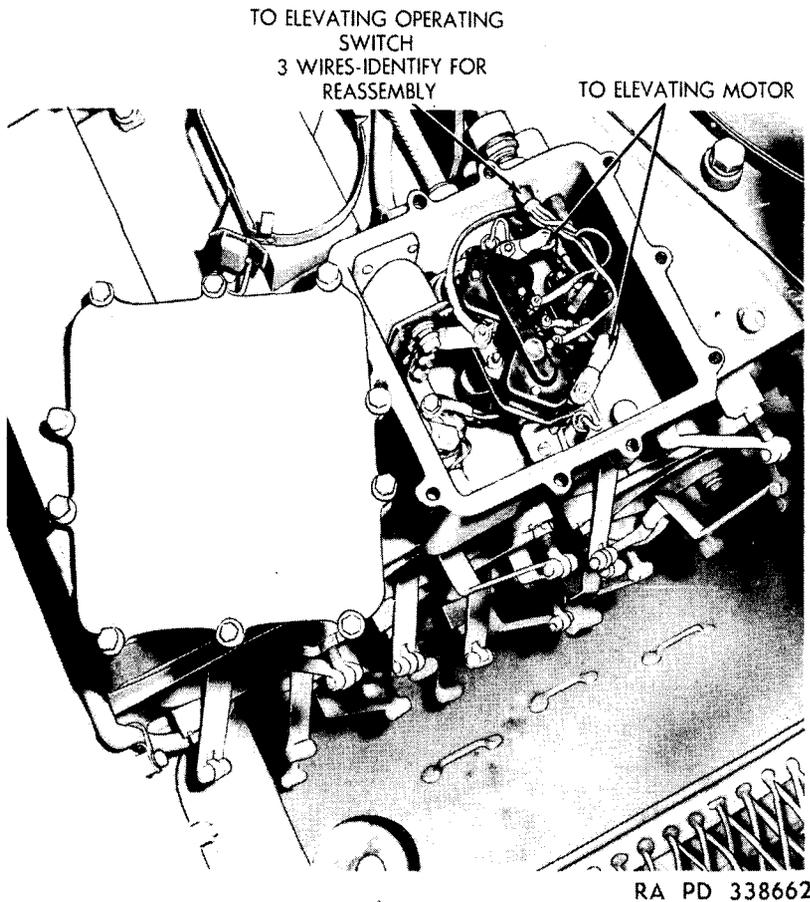
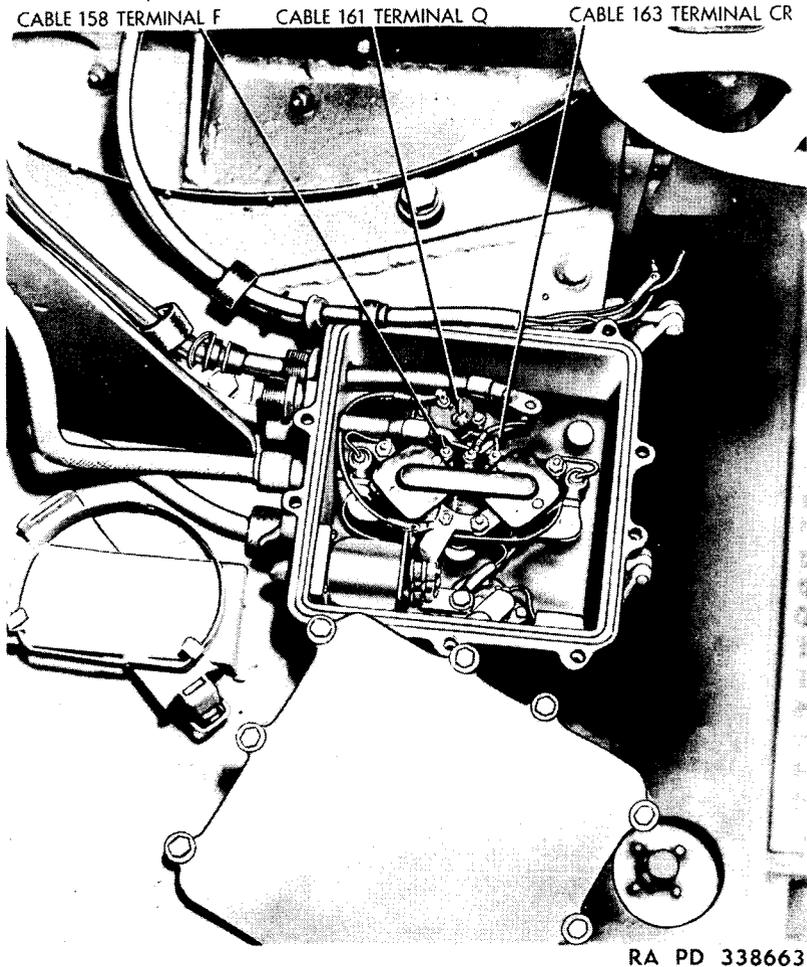

Figure 75. Elevating control relay box with cover removed (M41).
Figure 76. Electric control cables disconnected (M41).
c. DISCONNECT HOWITZER ELEVATING ELECTRICAL CABLES. Throw safety switch on howitzer elevating control relay box, and master switch in driver's compartment to OFF position, loosen 10 screws, and remove the cover from the relay box located on the left side of the bottom carriage (fig. 75). Disconnect the three cables running from the electric elevating mechanism to the elevating control relay box, taking precaution to properly identify the wires and terminals for reassembly (fig. 76).
e. **ELEVATING CONTROL RELAY BOX.** Assemble the cables to their proper terminals in the elevating control relay box, marked for identification at disassembly (fig. 76). Assemble cover and rubber gasket to the box, and tighten the ten cap screws. After connections to the battery have been made, turn on the master switch, located on the box. Check the operations of the electric elevating mechanism by raising and lowering the howitzer with the electric elevating mechanism. Throw switch on control relay box to "OFF" position.